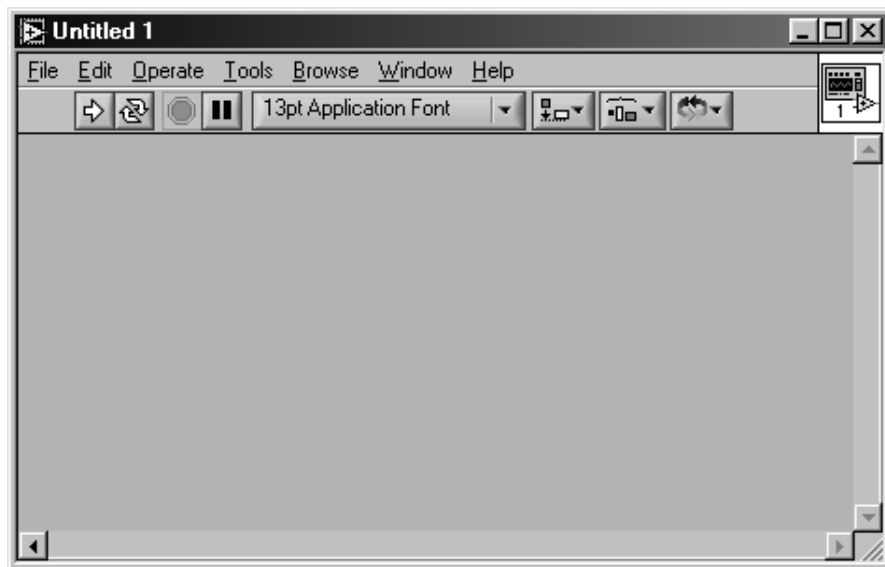

Figure 1-3
In Windows, find the **Start** button in one of the corners of your screen, typically the lower left corner. Select **Start»Programs»National Instruments LabVIEW 6i** from the Windows task bar (this menu path may vary on your computer). If LabVIEW asks you to log in and you don't want to log in every time LabVIEW launches, see Appendix E, item 15. If LabVIEW was not running, you might see an introductory LabVIEW window asking if you want to create a new VI or open an existing one; if you see this window, create a new VI; otherwise, one will have been created for you. You will see, as shown in Figure 1-3, a new front panel come up, called **Untitled 1** (or, if LabVIEW was already running, the untitled window will be numbered according to the number of times an untitled window has been created—Untitled 2, Untitled 3, and so on).